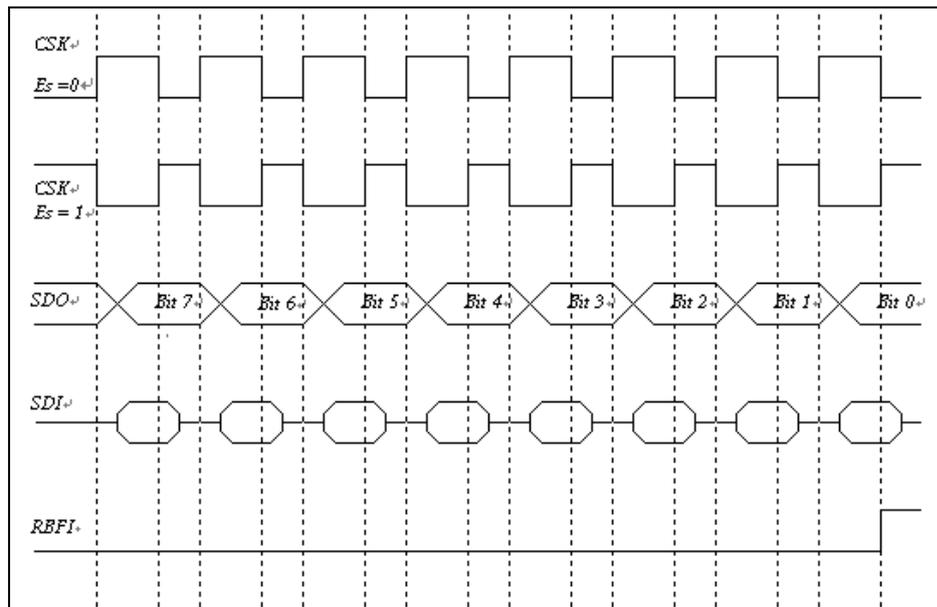
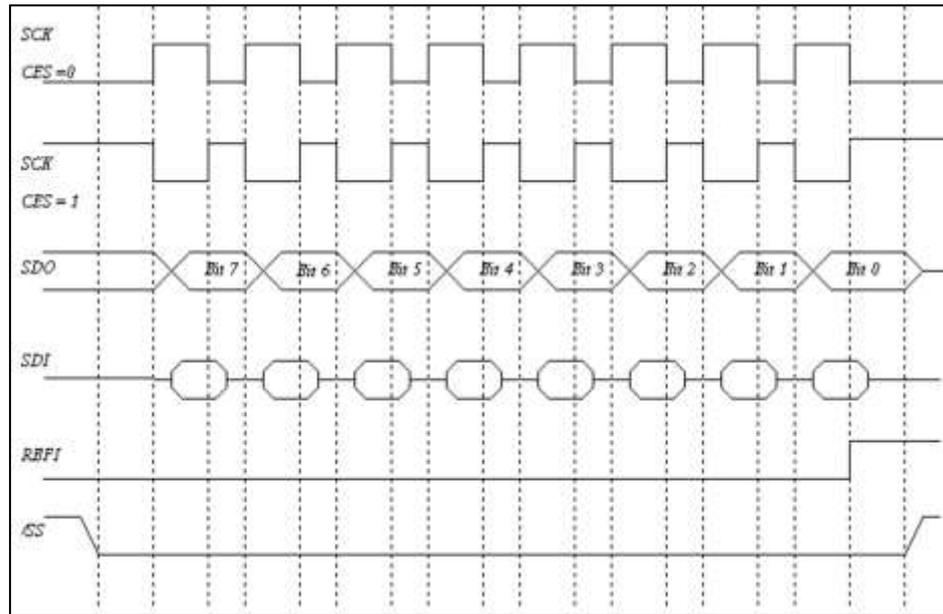

Figure 6-34 SPI Mode with /SS Disabled
Figure 6-35 SPI Mode with /SS Enabled
- Timing is shown in Figures 6-34 and 6-35.
- Timing is shown in Figures 6-34 and 6-35
The SCK edge is selected by programming bit CES. The waveform shown in Figure 6-34 is applicable regardless of whether the EM88F758N is in master or slave mode with /SS disabled. However, the waveform in Figure 6-35 can only be implemented in slave mode with /SS enabled.